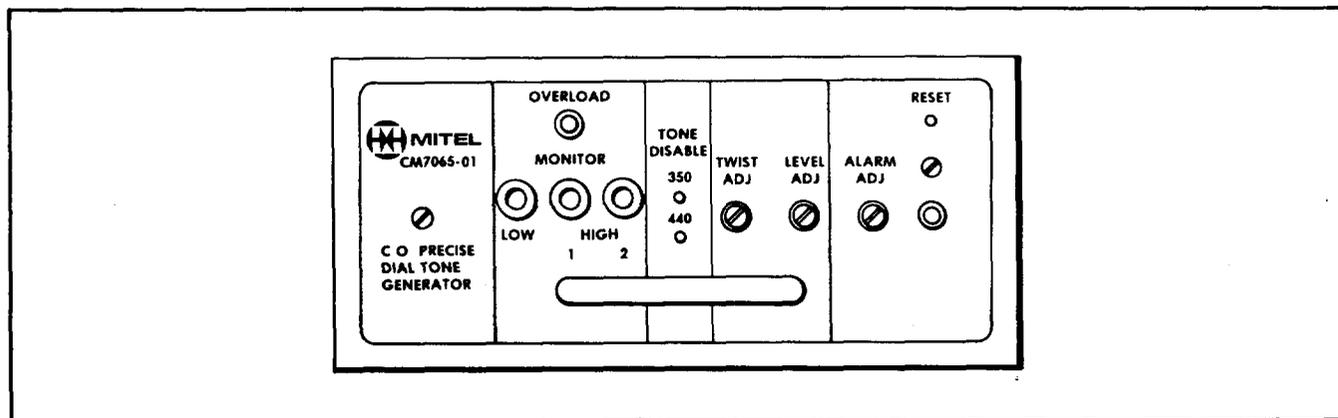

Fig. 11 Front Panel Layout
**4.01** The following paragraphs contain descriptions of all front panel controls, switches, indicators and test jacks together with their functions. Refer to Fig. 11.